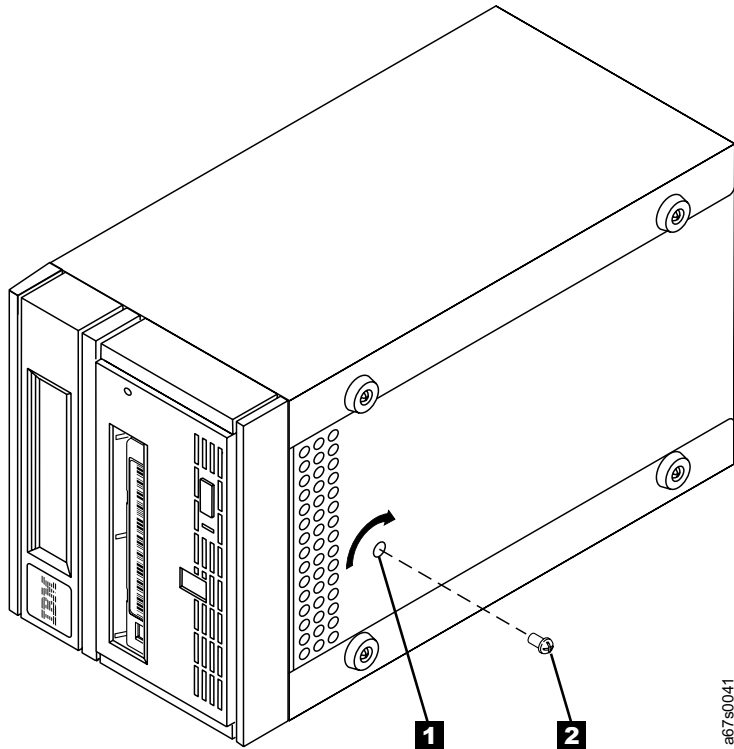

Figure 19. Removing the screw from the access hole
3. Place the 3580 Tape Drive on its side and locate the access hole at the bottom of the unit (see **1** in Figure 19).